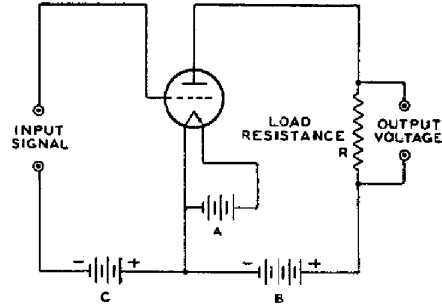

Fig 5
The plate current flowing through the load resistance (R) of Fig. 5 causes a voltage drop which varies directly with the plate current. The ratio of this voltage variation produced in the load resistance to the input signal voltage is the voltage